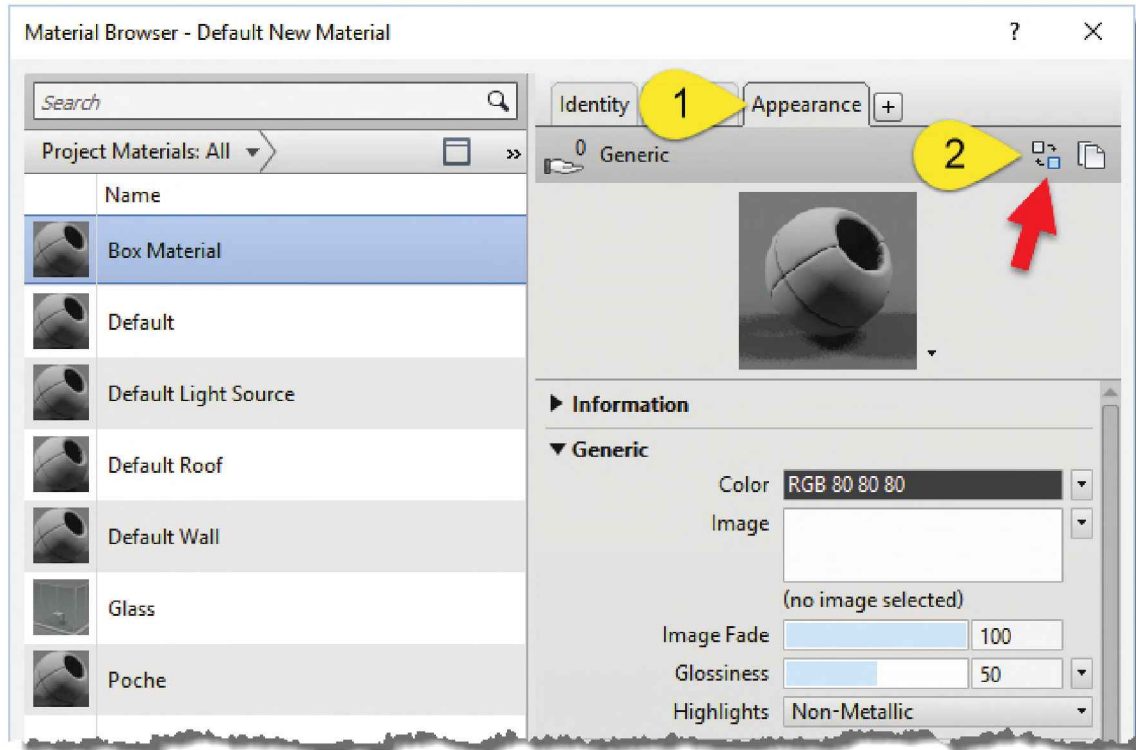

FIGURE 18-4.11 Selecting rendering appearance
22. Click to add an **Appearance** asset (Figure 18-4.11).